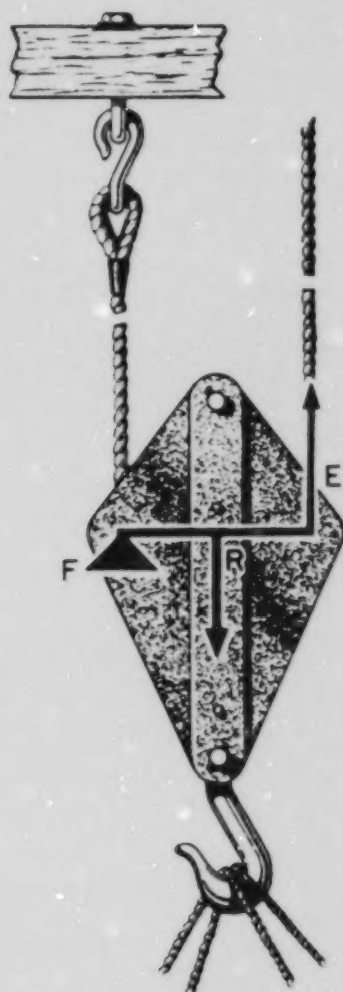

Fig. 4. Single movable block acting as a second-class lever
The single movable block in figure 4 is really a second-class lever. Your effort (E) acts upward upon the arm EF, which is the diameter of the sheave. The resistance (R) acts downward on the arm FR, which is the radius of the sheave. Since the diameter is twice the radius, the mechanical advantage is two.